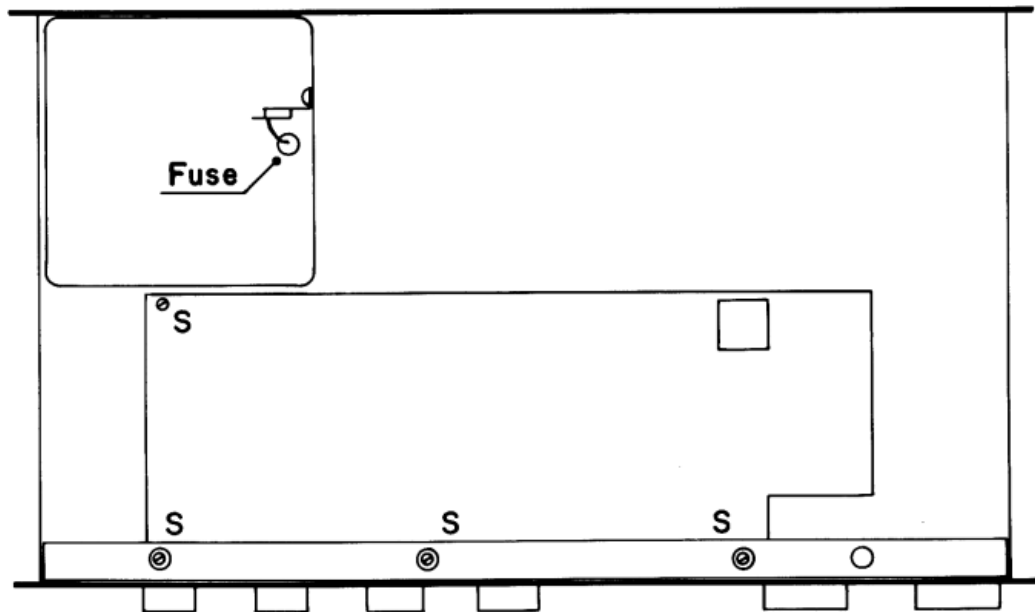

Fig. 6-3. Switchboard Mounting.
- 6.3 Switchboard and Jackboard.** Remove the four 4-40 machine screws marked S in Fig. 6-3 and lift up the rear of the board (toward the power transformer). Avoid flexing flat cables any more than is necessary. Nearly all parts are accessible once the board has been lifted. When reinserting this board, pull all of the toggle switches up to allow the toggle levers to enter the front panel holes easily.
6.8 Power Supply and Power Switch. Except for the power switch, all line voltage wiring is contained inside the steel power supply bracket. After the rear panel is taken off, removal of five more 4-40 × 1/4 in. machine screws (four in the main circuit board, one in the switchboard, marked S in Fig. 6-3) will release the bracket.